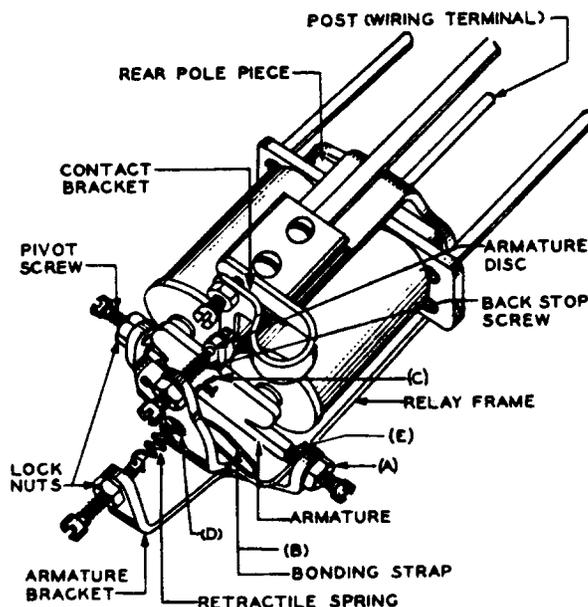

Fig. 1 - 207- and 213-type Relays
- 2.04 Tightness of Locknuts: Fig. 1(A) - The locknuts shall be sufficiently tight to hold the respective screws in their adjusted positions.
- 2.05 Bonding Strap Position: Fig. 1(E) - The bonding strap shall be free from any kinks or knots and shall be drawn out to the right (looking at the relay from the front) in as long a loop as possible.
- \*2.06 Hook Movement: Fig. 1(C) - The hook holding the retractile spring to the armature shall not bind in the armature.
Fig. 1(D) - There shall be sufficient clearance between the retractile spring and the relay frame, where the spring passes through the hole in the frame, to insure that the spring will not touch the frame when the relay is in final adjustment.
2.09 Armature Movement: Fig. 1(E) - The armature shall move freely in its bearings without excessive sideplay. Excessive shall be interpreted to mean more than 0.003 inch. The sideplay shall be checked by moving the armature from side to side in line with the axis of the pivot screws.